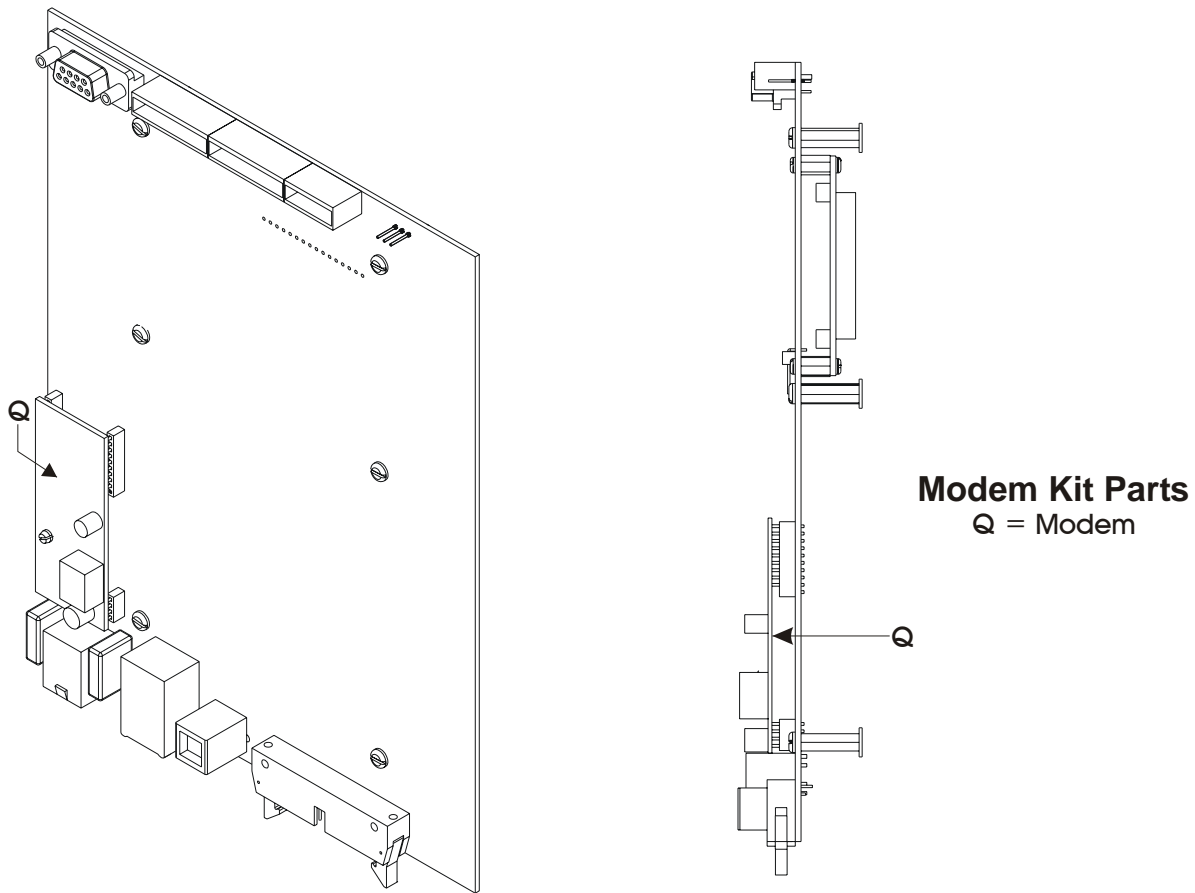

Figure D4 - MultiTech Modem Installation Diagram
- MultiTech Modem Module - Fig. D4 Reference = Q
To install a Model MT5634SMI Modem onto a CPU/System Controller Board, perform the following three (3) steps (referring to Figure D4):